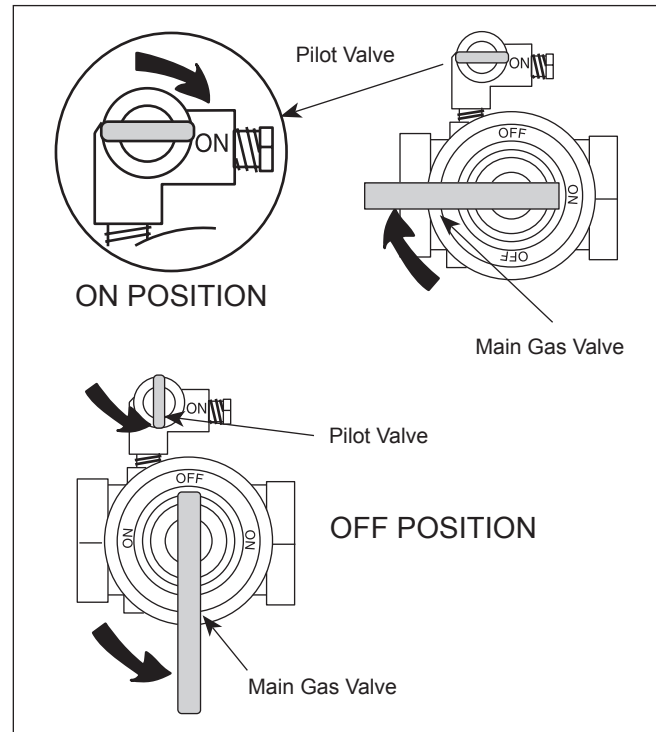

Figure 14 - Manual Gas Valves.
- b. Turn off all manual gas valves and wait five minutes (Figure 14).
Systems 4 and 9 - (intermittent ignition). With this system pilots are automatically lit when the operating controls call for heat. If the pilot flame fails for any reason, the main valve is shut off within one second and the pilot spark ignition is initiated until the pilot flame has been reestablished. This sequence should be checked by turning off the manual pilot gas valve (see Figure 14), and, at the same time, monitoring
System 16 - (electronically supervised standing pilot system). Extinguish the pilot flame by placing the manual pilot valve in the closed positions (see Figure 14), and at the same time, begin recording the time it takes for the output signal from the electronic ignition control to be interrupted. The signal interruption can be detected either with a test light or a voltmeter. The response time should never exceed one second.